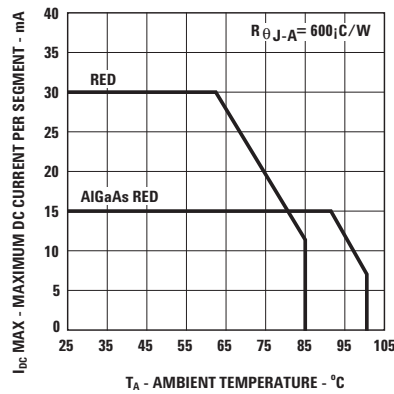

Figure 3. Maximum Allowable DC Current vs. Ambient Temperature.
5. Derate maximum DC current for Red above  $T_A = 62^\circ\text{C}$  at  $0.79 \text{ mA}/^\circ\text{C}$ , and AlGaAs Red above  $T_A = 91^\circ\text{C}$  at  $0.8 \text{ mA}/^\circ\text{C}$ . See Figure 3.